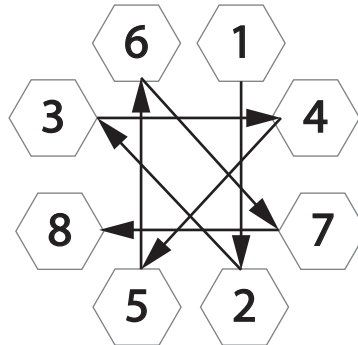

Figure 2: Torque Pattern
- b. Check the flange gap for uniformity, and then tighten in the same sequence as in Figure 2 to 70 ft-lb.
- c. Check the flange gap for uniformity, and then continue to tighten in the same sequence as in Figure 2 to 105 ft-lb.